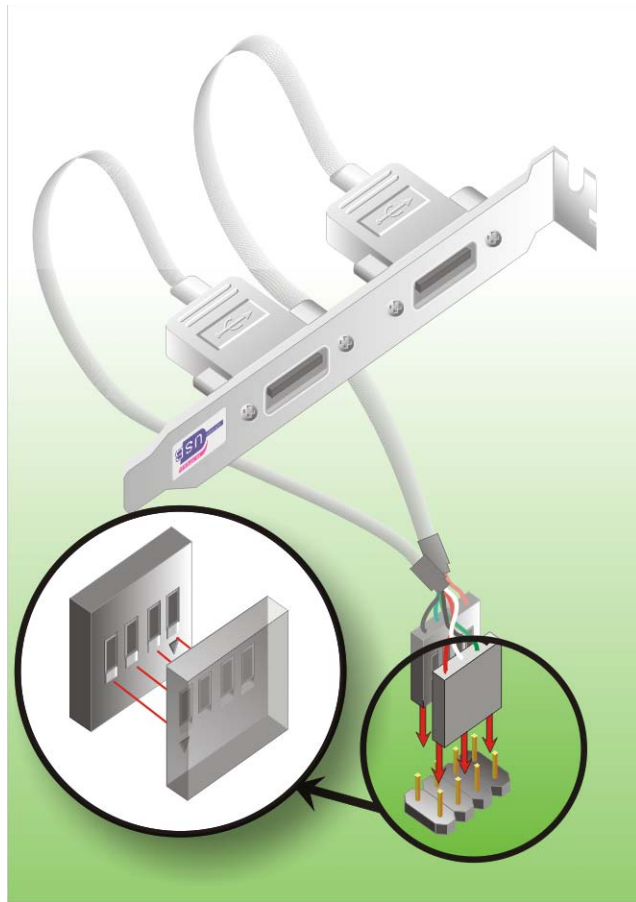

Figure 5-11: USB Cable Installation
Step 2: Insert the two 4-pin connectors from the module into the USB pin headers on the CPU card. (Figure 5-11)